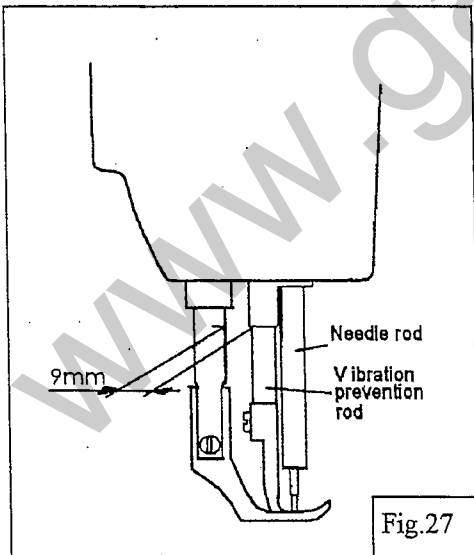

Fig.27
- D Set the needle at the lowest position. Adjust the distance between presser rod and vibration prevention rod to 9mm and temporarily tighten the feed lifting rockshaft crank set screws A and B. (Fig.27)